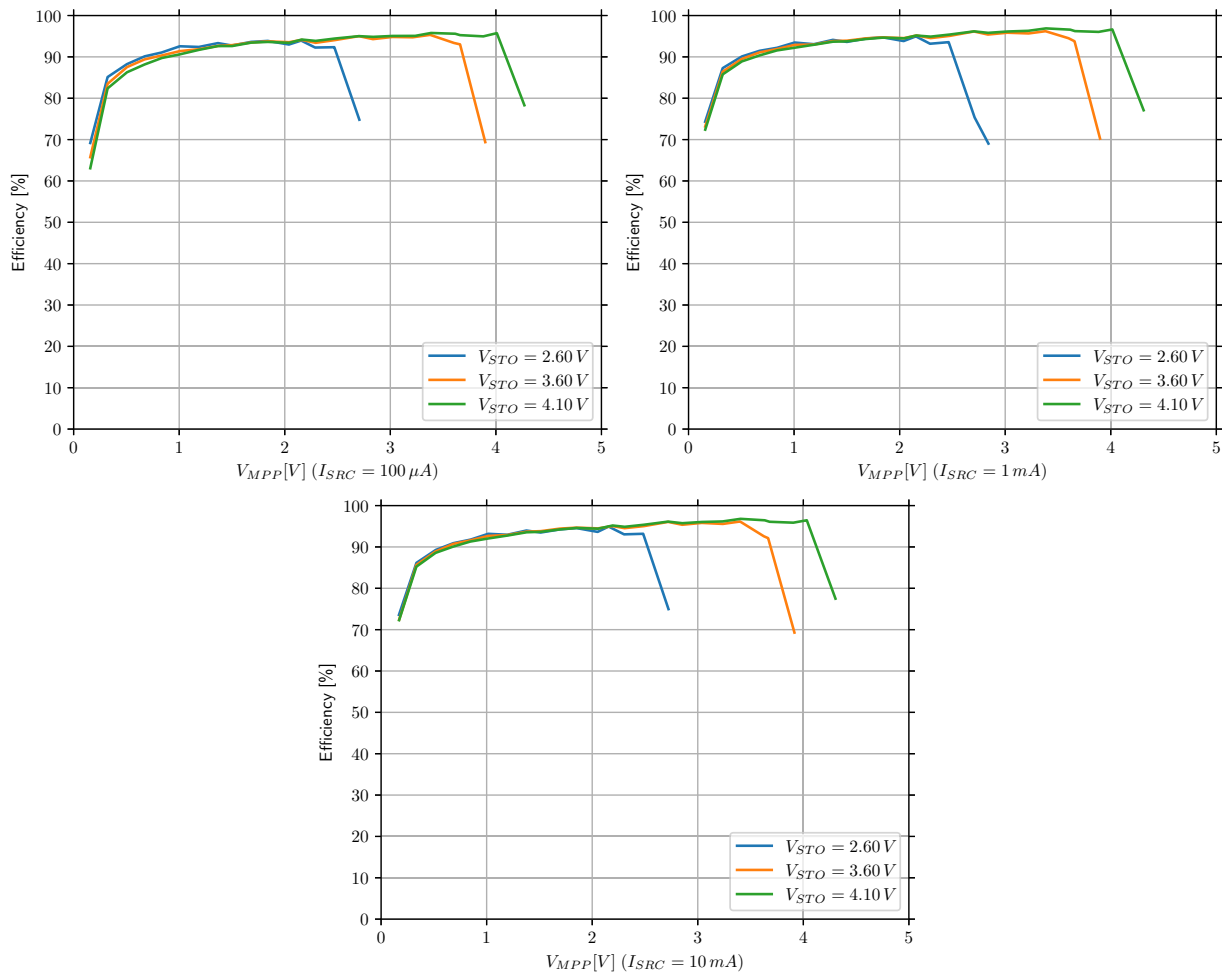

Figure 7: Boost converter efficiency with $L_{BOOSTx} = 33 \mu H$ (Coilcraft LPS4018-333MRB), $BSTxCFG.TMUL = 0x02$ (x3)
- Optional: a device able to act as an I²C master and send I²C commands to the AEM13920. Only useful when testing settings that are not accessible through the configuration pins, such as boost timings. Please note that, the results shown on Figure 7 are with x3 boost timing, which has to be set to this value through I²C communication.